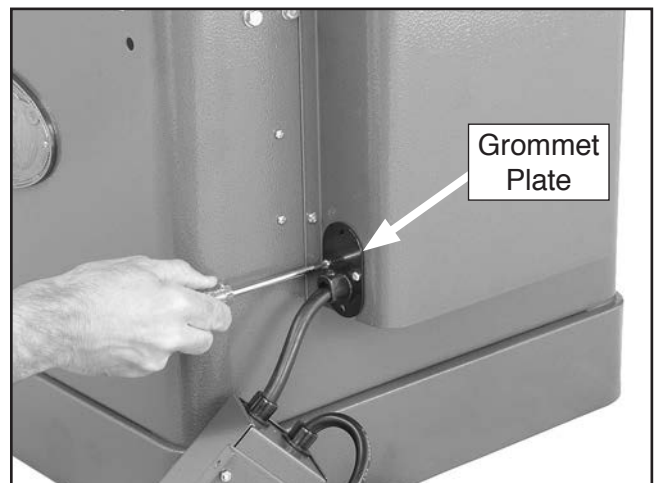

Figure 10. Securing grommet to motor cover.
6. Install the grommet plate, as shown in **Figure 10**, using the screws and nuts already mounted in the motor cover.